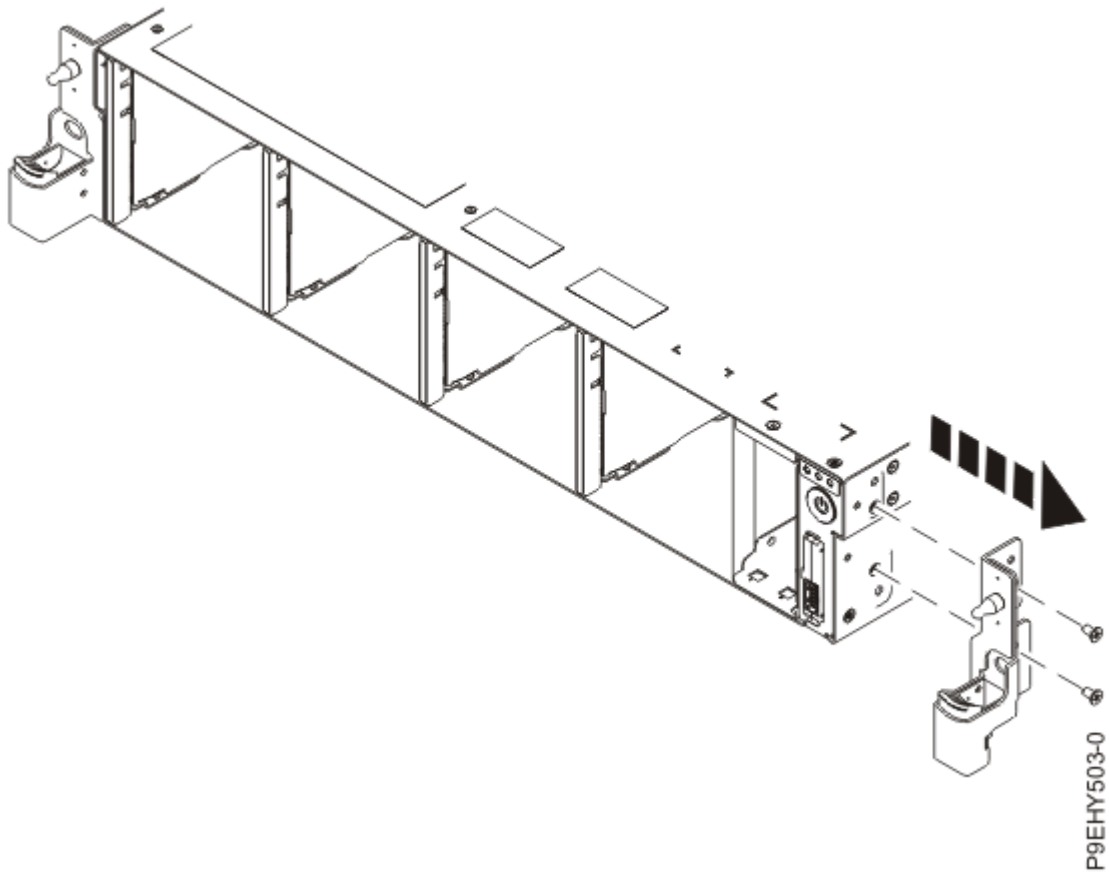

Figure 37. Removing the rack installation support
7. Remove the rack installation support from the side of the system as shown in Figure 37 on page 53.